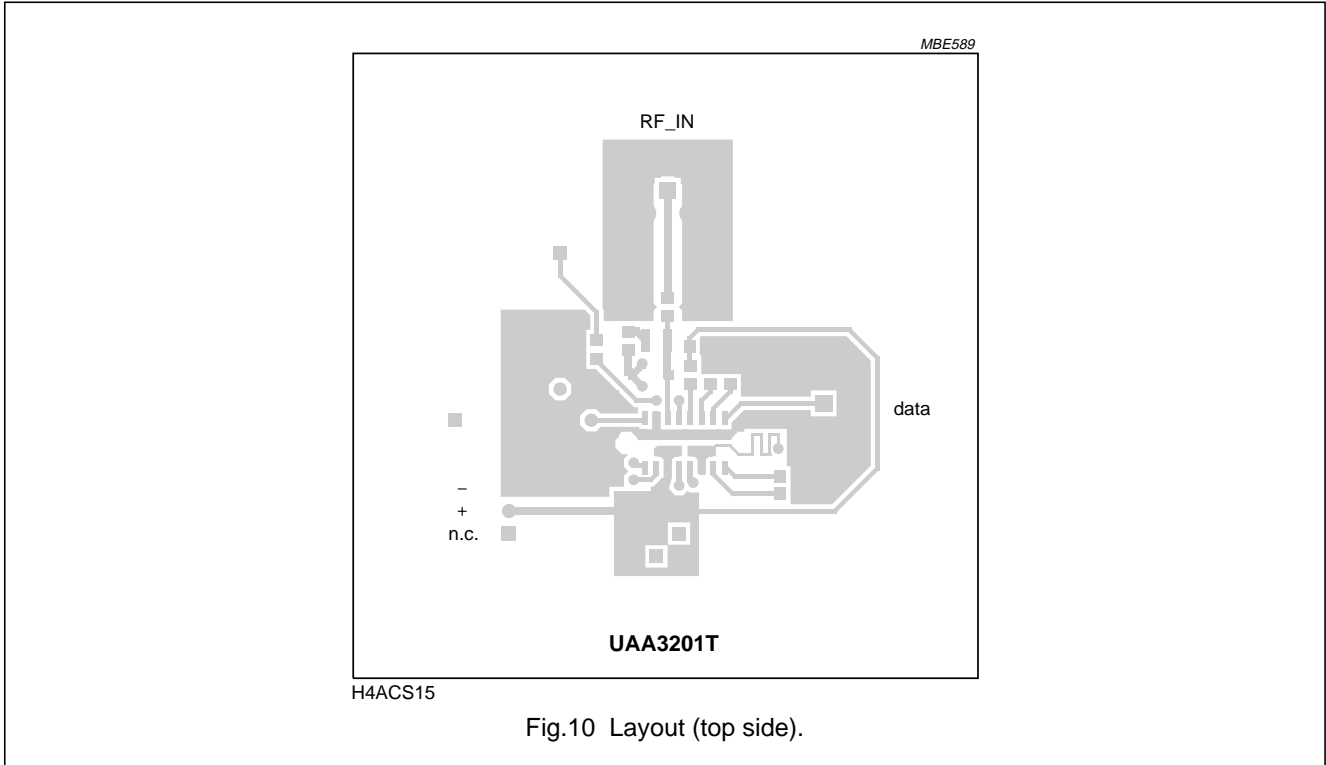

Fig.10 Layout (top side).
$V_{CC} = 3.5\text{ V}$; $T_{amb} = +25\text{ °C}$; test circuit (see Fig.1); R1 disconnected; for test board see Figs 10 and 11; for AC test conditions see Section "AC test conditions"; unless otherwise specified.
- Valid only for the reference PCB (see Figs 10 and 11). Spurious radiation is strongly dependent on the PCB layout.